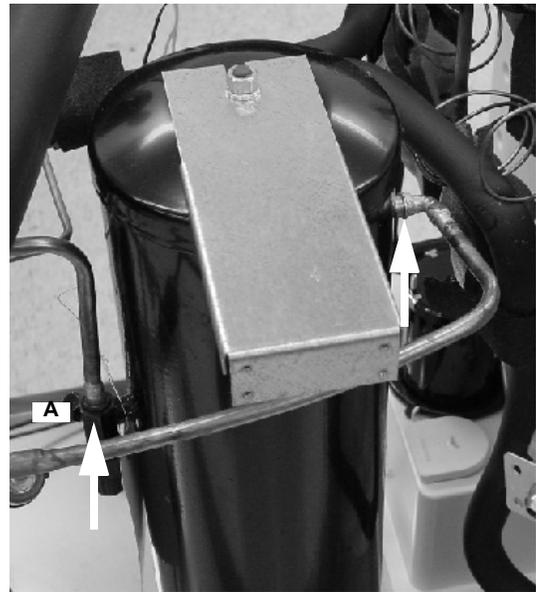

Figure 22. Rear of Unit
23. Move the nitrogen feed to the service port (A) on the receiver. Open the service valve. Protecting the plastic bulkheads and the water pan, remove the connections to the receiver (Figure 22).